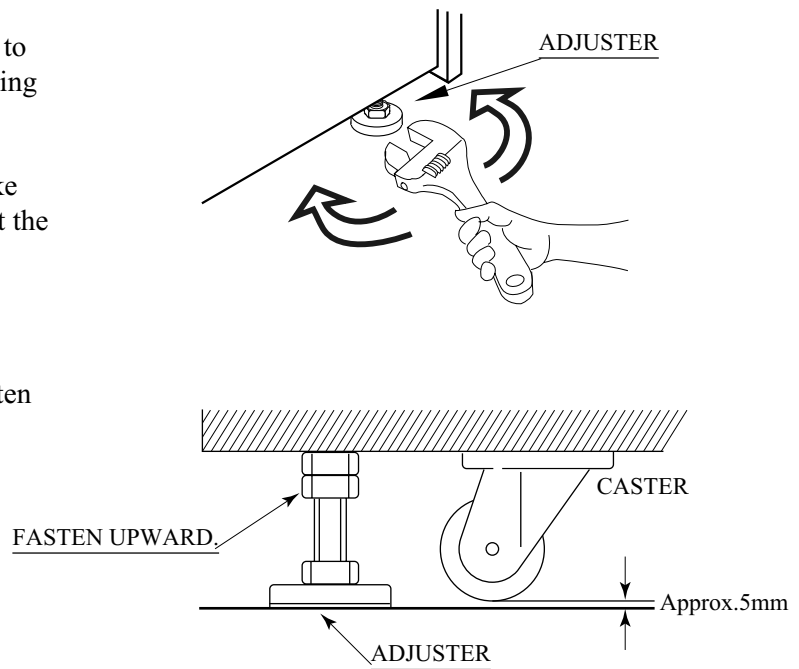

FIG. 5. 3 b ADJUSTER
- ① Transport the product to the installation position. Be sure to provide adequate space allowing the player to get on and off.
- ② Have all of the Adjusters make contact with the floor. Adjust the Adjuster's height by using a wrench so that the machine position is kept level.
- ③ After making adjustment, fasten the Adjuster Nut upward and secure the height of Adjuster (FIG. 5. 3 b).